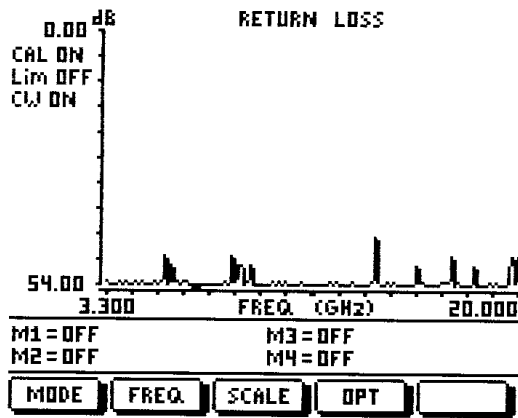

Figure 3-4. Return Loss Measurement Mode Calibration Results
- Step 17.** If **COAX** is selected, follow the instructions in the message area and connect the open, short, and load when prompted. Connect the k to n-type adapter as needed for your particular configuration. Refer to Figure 3-3. Figures 3-4 and 3-5 show a typical response after calibration with the load still attached to the test port.